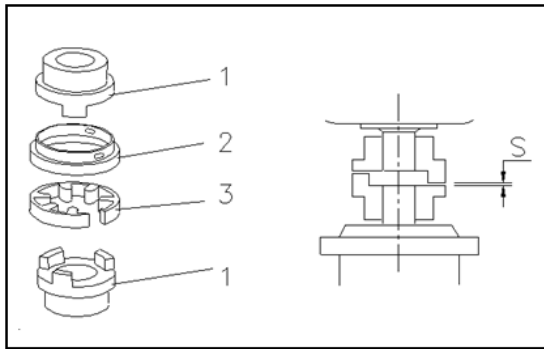

Fig. 8.2
- To be able to check the coupling remove the protecting hoods from the motor support. See Fig. 8.2
- Check if the coupling has not too much clearance with regard to the flanges (1).
- Remove the screws from the ring (2) and lift it.
- Remove the elastomer (3) and check for wear.
- Check if the distance between the flanges (S) is between 2 and 4 mm.